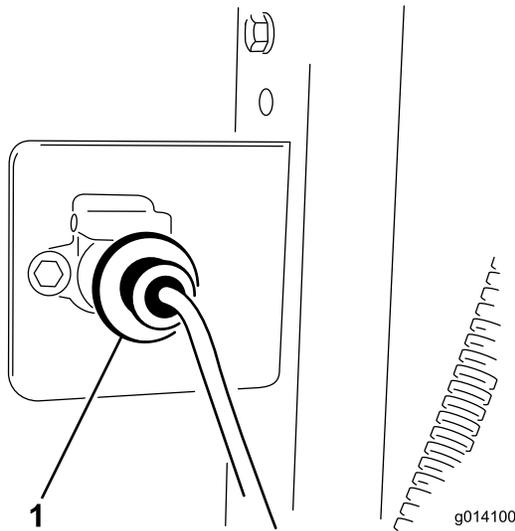

Figure 10
1. Mount the socket bracket to the rear of the tow vehicle with (2) 5/16 x 1 inch screws and nuts.
3. Secure the wire harness socket to the bracket with (2) 1/4 x 1 inch screws and nuts (Figure 10).
5. Attach the base unit wiring harness to the tow vehicle wiring harness (Figure 10). The connector is located among the hydraulic hose attached to the tow vehicle.